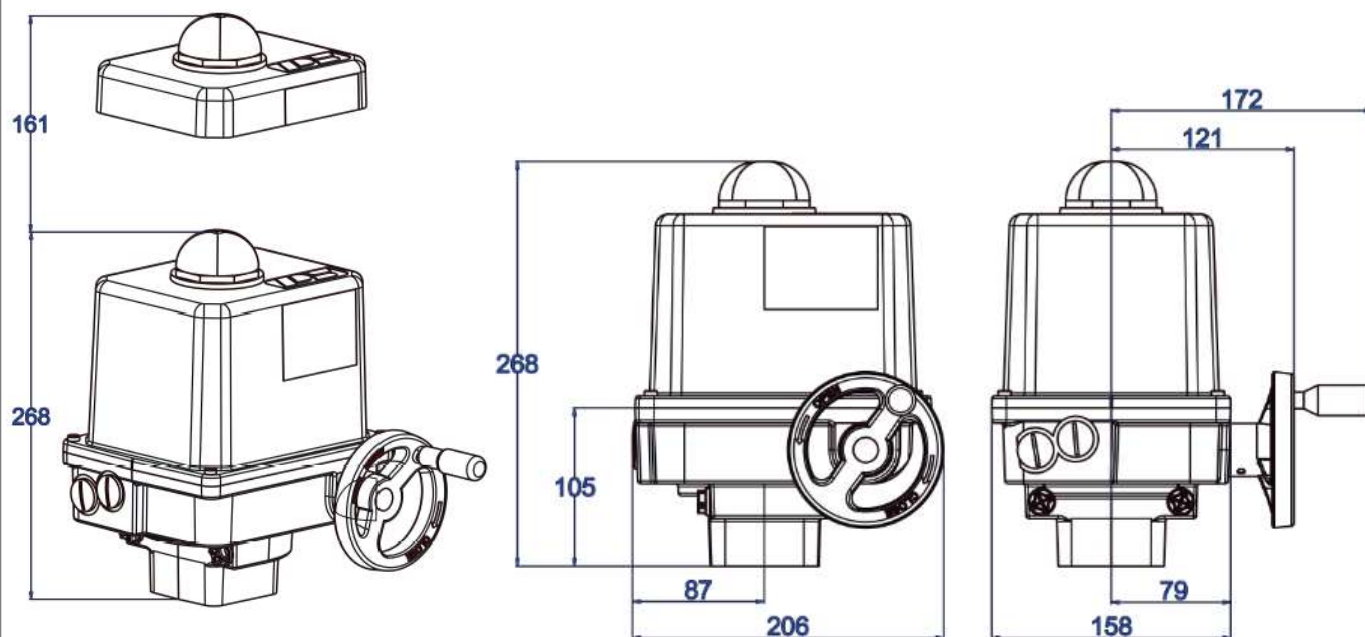

Figure 1: Installation dimensions PSQ-E100 and PSQ-E150
- When installing the actuators, leave enough space to permit cover removal (Figure 1).